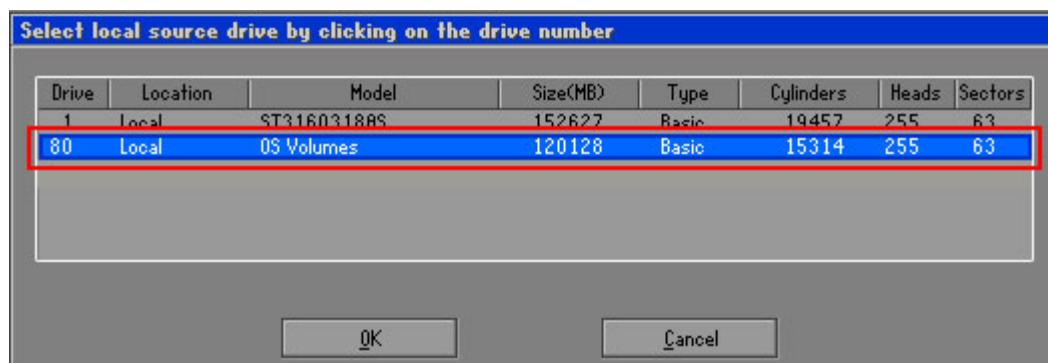

Figure C-11: Select a Local Source Drive
Step 5: Select the local source drive as shown in **Figure C-11**. Then click OK.